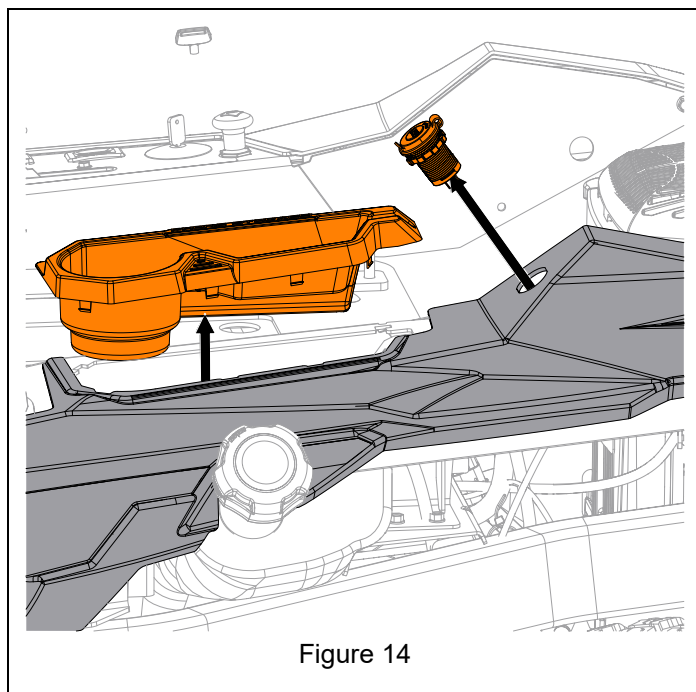

Figure 14
2. Remove USB port and cupholder from left fender. See Figure 14.
2. Reinstall cupholder and USB port. See Figure 14.